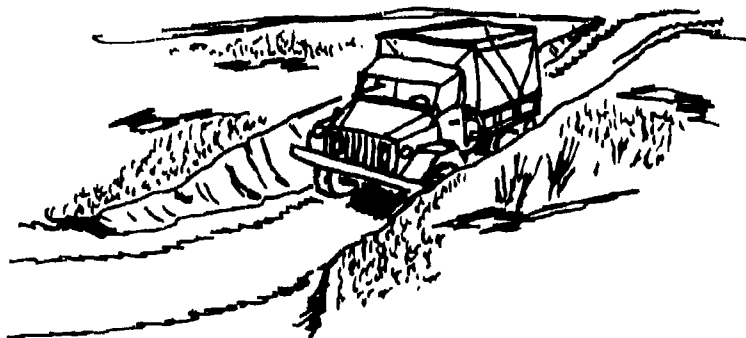

FIGURE 22. PROTECTION OF VEHICLES IN SLOT TRENCHES.
--"Protect vehicles in slot trenches." Slot trenches or natural depressions in the ground will provide valuable protection against blast, thermal, and radiation effects. The important objective is to lower the vehicle center of gravity down to or below the surface of the ground to reduce its susceptibility to turnover. The sides of the trench will also help to protect the tires and fuel tank from ignition by the thermal pulse and from damage by missiles (see Figure 22).